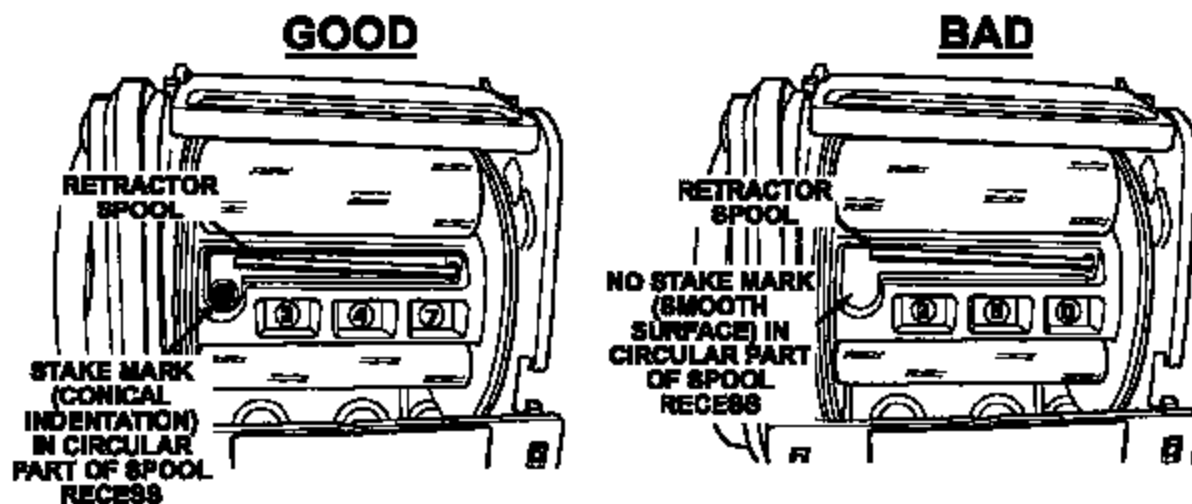

Figure 2
8. Using your fingers, turn the retractor webbing spool about another $\frac{1}{4}$ turn to expose the recessed area of the spool (Figure 2).
9. Inspect the circular recess at the front (left) end of the spool recess for the presence of a stake mark (Figure 2).